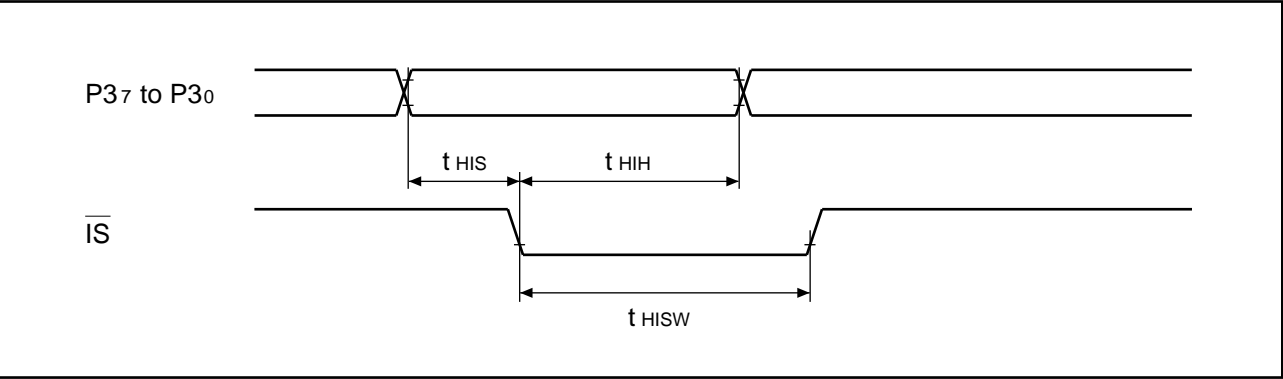

Figure 15-19. Input Strobe Input Timing
15.3.8 Parallel Handshaking Interface Timing	Figures 15-19 to 15-21